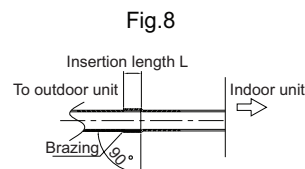
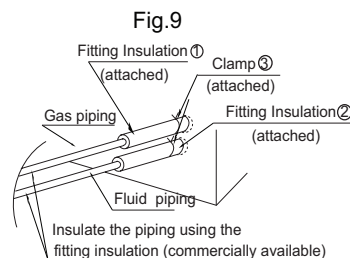

Fig.8
Fig.9
2. See Fig. 8 in reference to "L"
- After brazing the pipes as show in Fig.8 use the fitting insulation to secure the pipe inside of the unit (see Fig.9, 10-1 and 10-2).
- Clamp the fitting insulation with the attached clamp ③ as shown in Fig. 9.